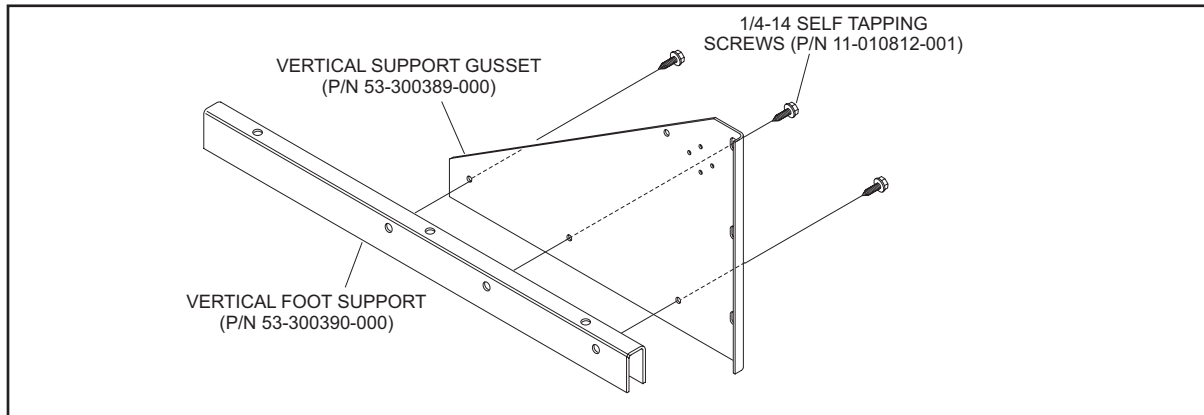

Figure 2
1. Assemble the support gusset to the foot support with 1/4-14 self tapping screws (P/N 11-010812-001). Refer *Figure 2*.